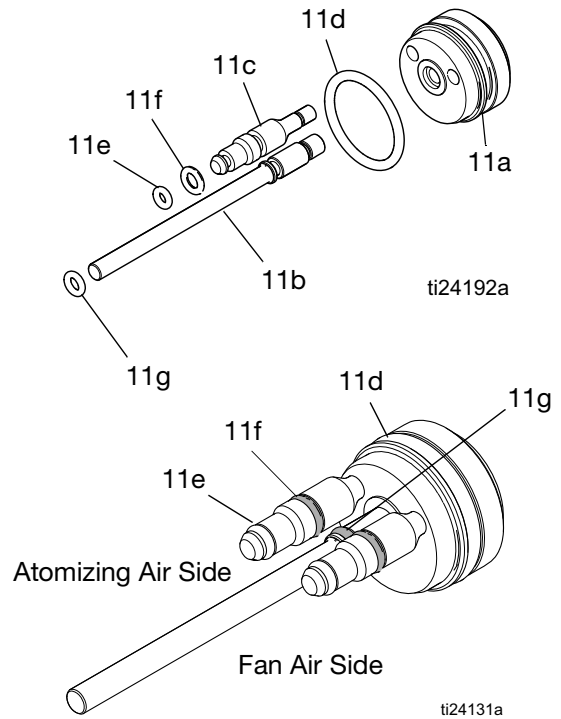

FIG. 27. Piston O-Rings
4. Remove piston cap (13) from the rear of the gun.
5. Push on the piston rod (11) to push the piston out the back of the gun.
6. Inspect the o-rings (11d, 11e, 11f, 11g) for damage. See Table 3 and FIGURE 27.